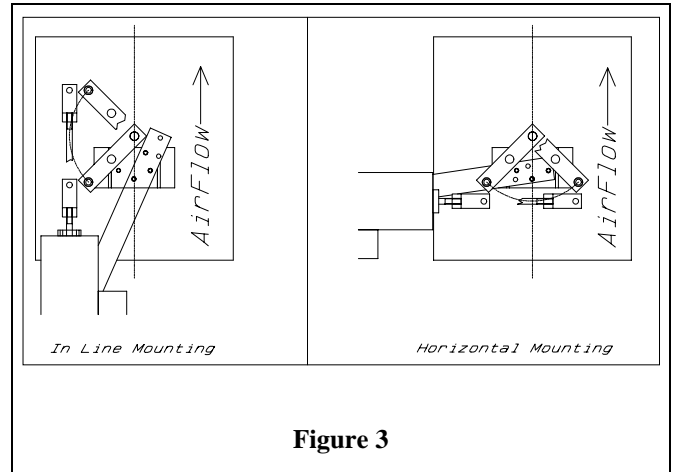

Figure 3
- Note the stroke arc for each mounting option in Fig. 3. **These are the only two positions in which the damper blade will operate from fully open to fully closed.** It is possible to install the actuator on the damper assembly to operate from 1/2 open to 1/2 closed. Care must be taken to ensure correct orientation of the stroke transfer arm. Improper operation will result from incorrect installation.